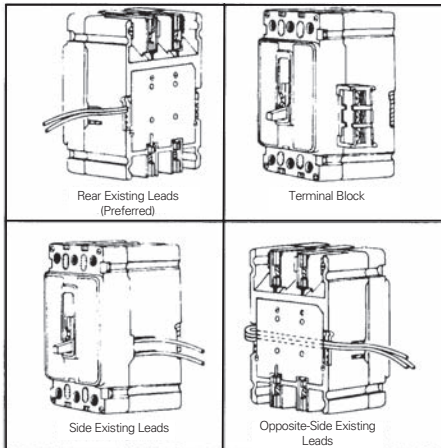

Fig. 2-2. Accessory Wiring Options.
- 2-5. Route wiring to meet installation requirements. (See Fig. 2-2.)